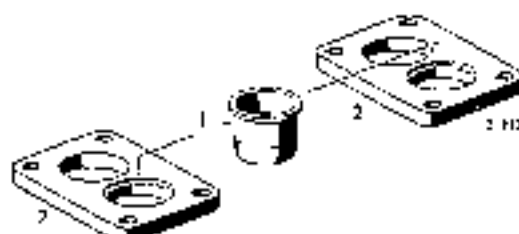

Fig. 01-4/2
Note: When the grey cast iron flange was installed, it was necessary to dispense with the upper insulating flange so as not to change the installation height of the carburetor. By way of compensation, a standard paper gasket, Part No. 180 0/1 00 80, is installed on these carburetors between the carburetor flange and the screening plate (Fig. 01-4/3).
6. Install the lower insulating flange, and in the case of Models 220 a and 219, the gasket on the intake pipe (Fig. 01-4/3).
On Model 220 S insert the air jet (1) in the first Stage bore of the upper insulating flange (2) (Fig. 01-4/2).